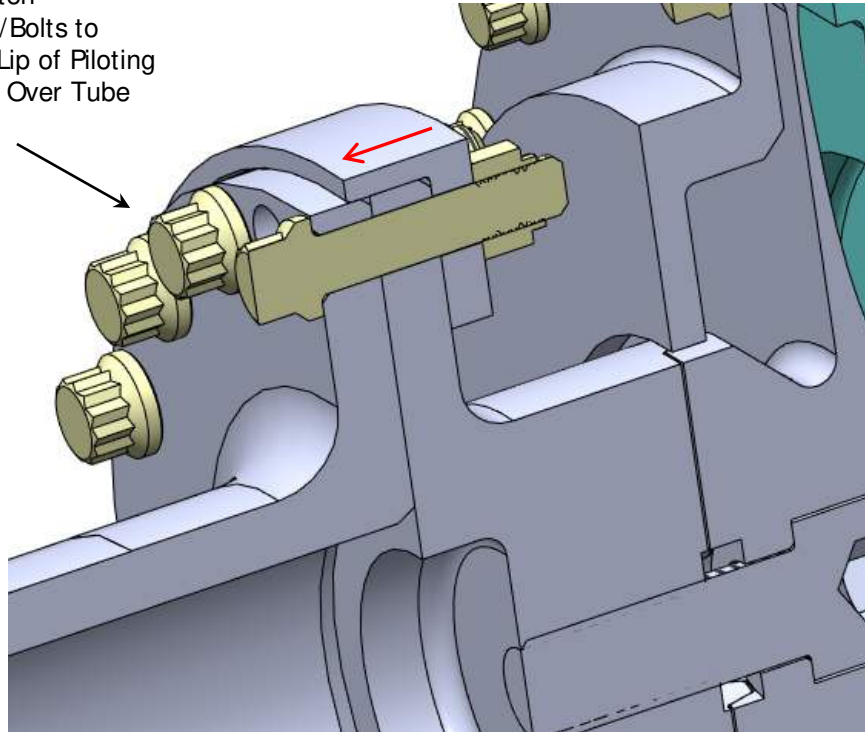

Figure 13 – Piloting Ring Fit Over Tube OD
4.2.3 While supporting the weight of the tube, tighten the bolts/nuts a few turns at a time in a criss-cross pattern to draw the piloting ring over the tube flange evenly (see Figure 13). Install the remaining bolts and nuts and torque evenly in a criss-cross pattern to the torque shown on drawing HC-10378.